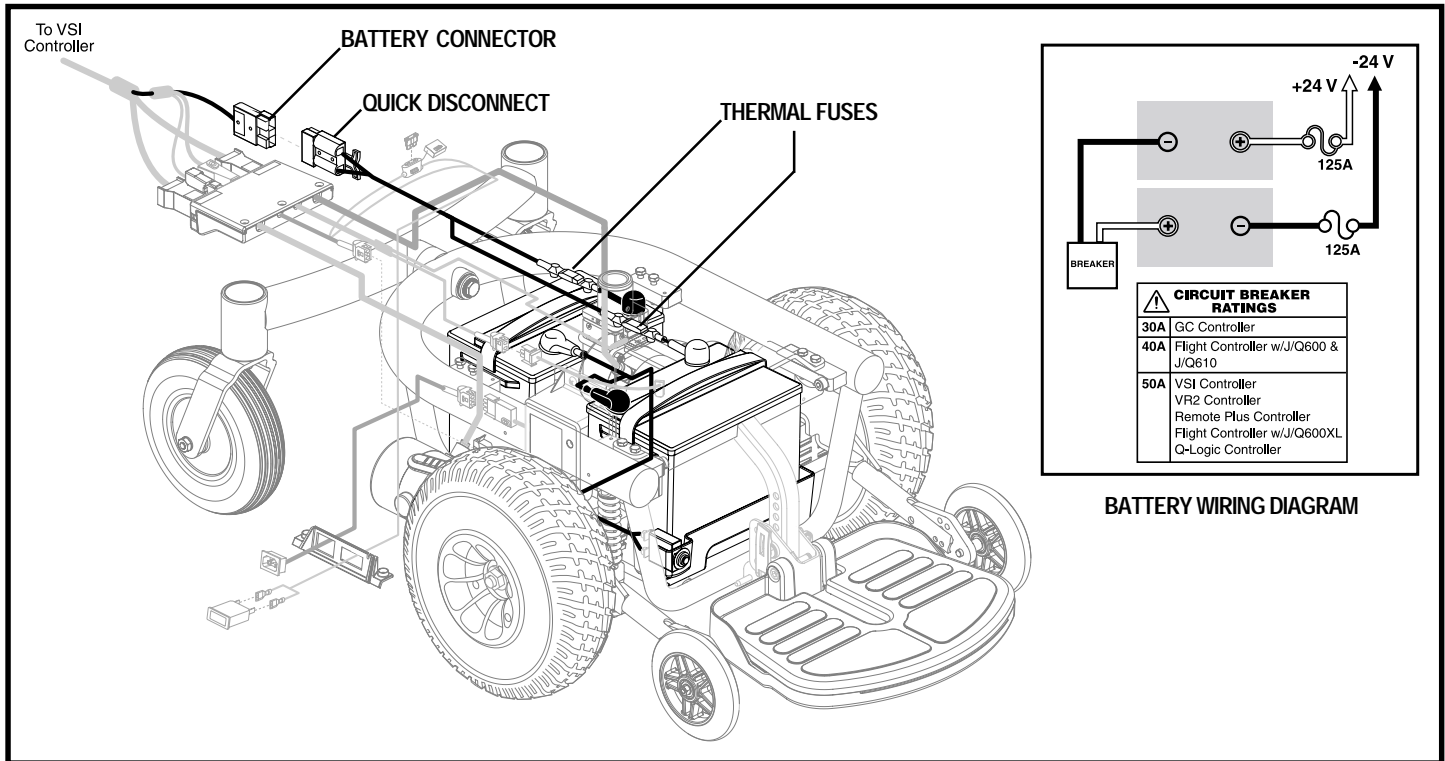

Figure 29. Jazzy 1103 Ultra Battery Connections
A battery wiring diagram is printed on a decal located on the battery tray. See figure 29. See VI. "Batteries and Charging" for correct battery specifications.
5. Unplug the battery connector. See figure 29.
18. Connect the wiring harnesses to the front battery. See figure 29.
19. Connect the wiring harnesses to the rear battery. See figure 29.